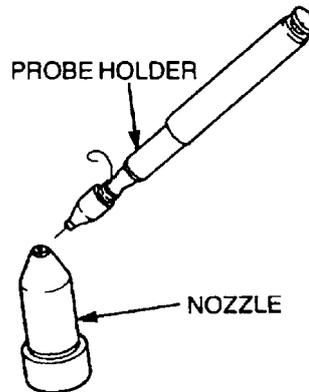

Figure 139 Nozzle Spray Holes Cleaning
- e. Using the probe wire, clean out the carbon from the nozzle spray holes (Figure 139), ensuring that no more than 1.5 mm (0.062 in) of wire extends from the holder to prevent the wire bending or breaking in the nozzle.